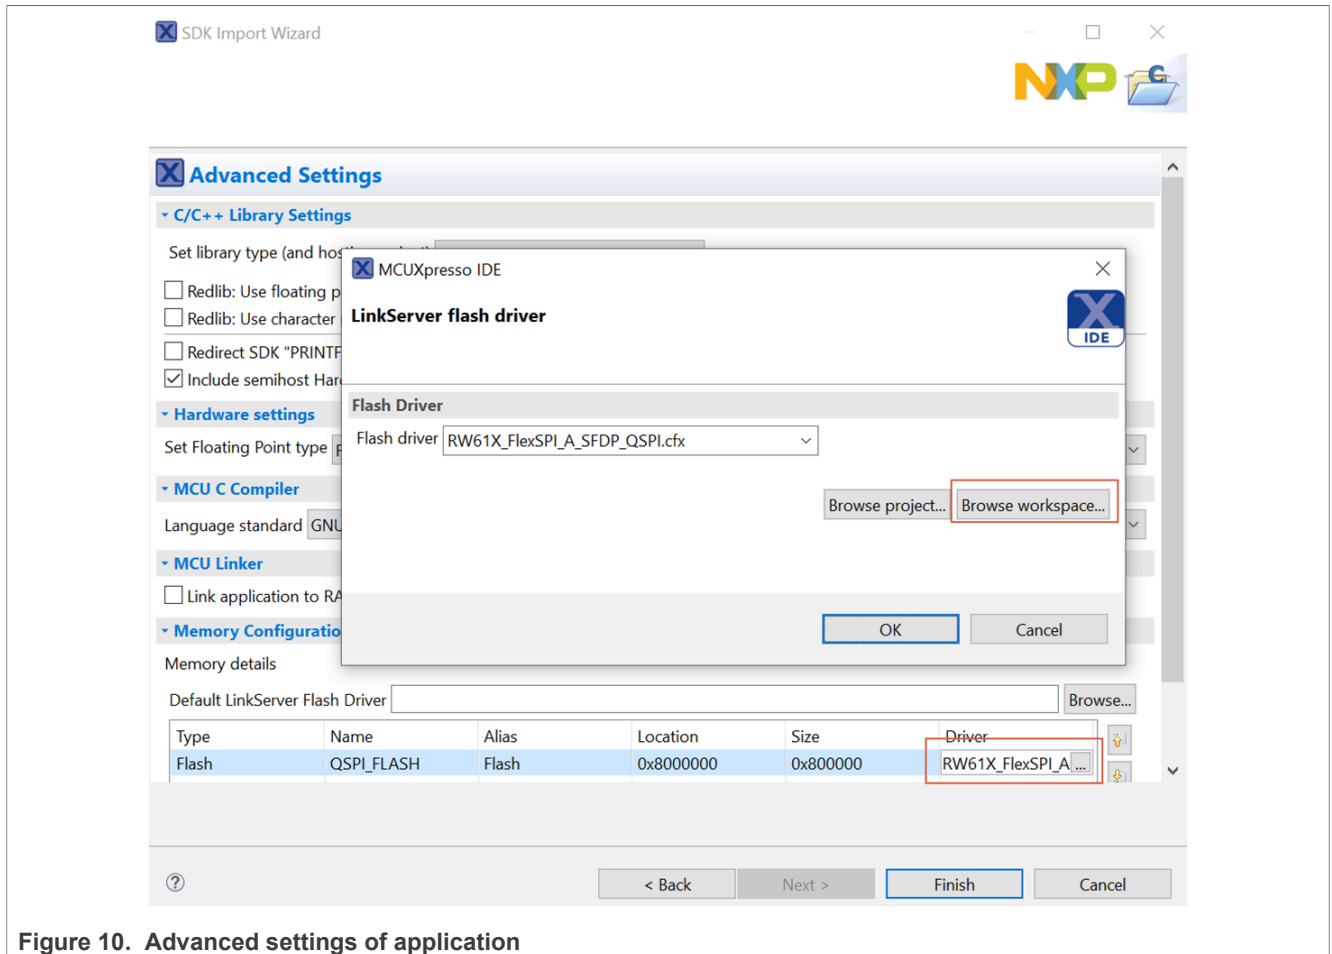

Figure 10. Advanced settings of application
- To test the flashloader, import the *gpio_led_output* example into the workspace with the flashloader drivers. For how to import an SDK example, refer to [ref.\[4\]](#). Open the **Advanced Settings** window of the **SDK Import** wizard and select the driver from the workspace option (Figure 10).